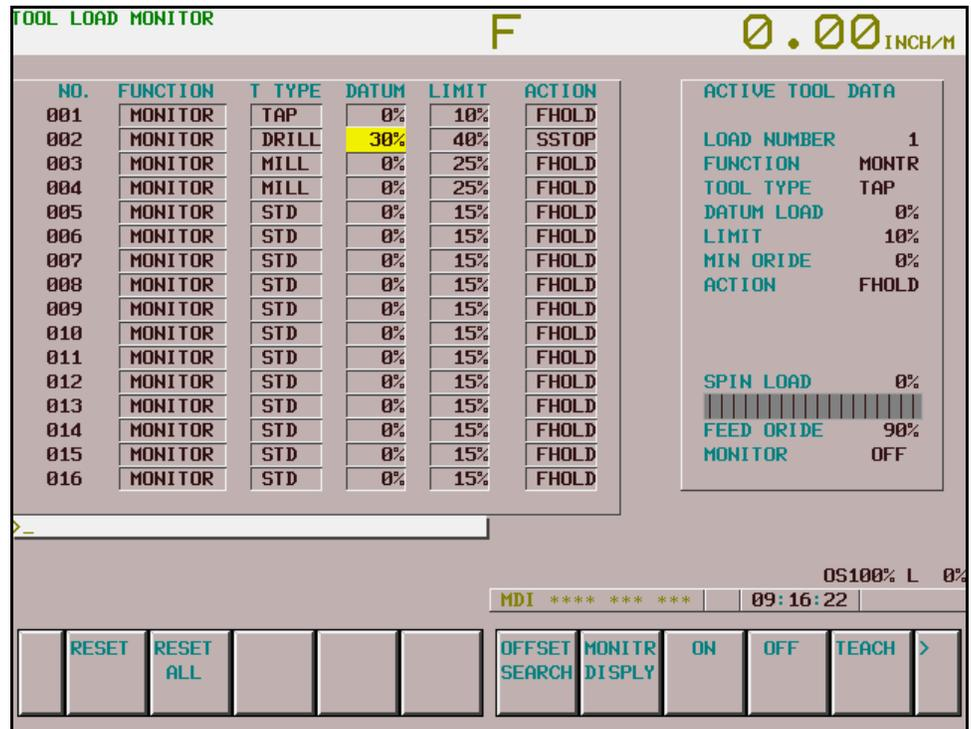

Figure 4-12: Datum
- Use the cursor keys to highlight the tool number required in the Datum column (Figure 4-12:).